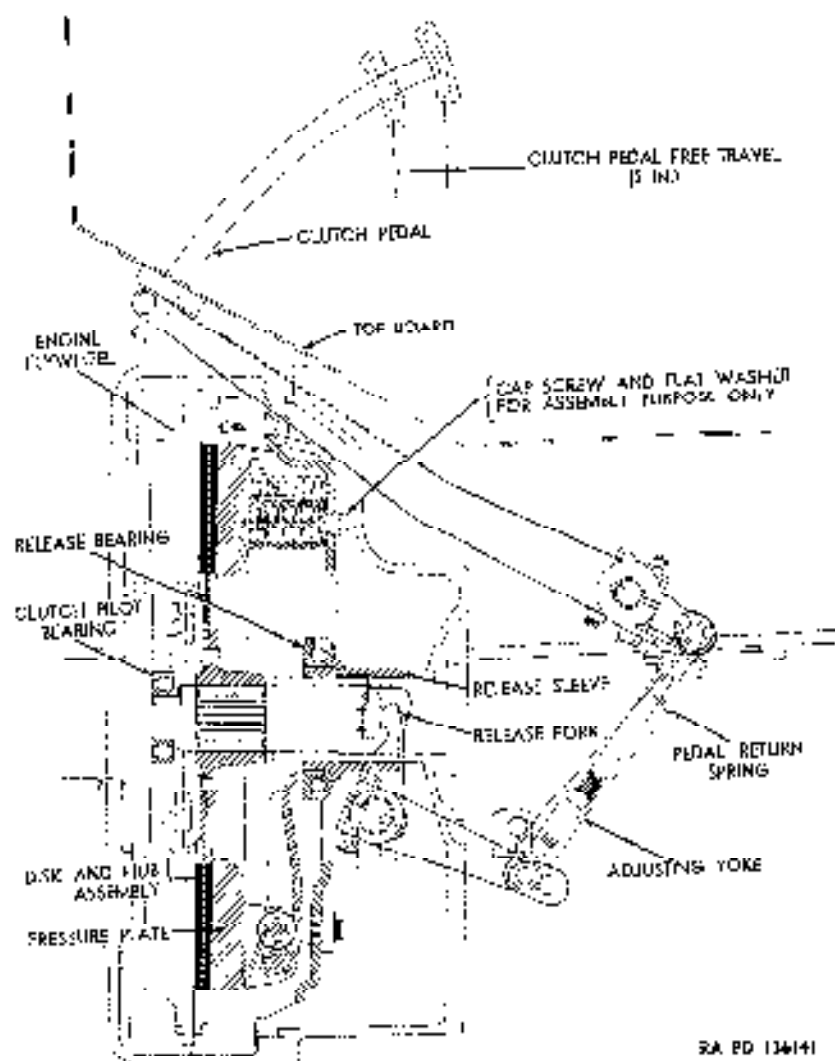

Figure 156. Diagram of Clutch and Control Linkage.
- (2) Unhook lower end of clutch pedal return spring from bracket on outside of frame left side rail.
- (3) Depress clutch pedal and note pedal free travel (fig. 156).
- (4) If pedal free travel determined in (3) above is still incorrect, repeat (2), (3), (4), and (6) above until correct free travel is obtained.